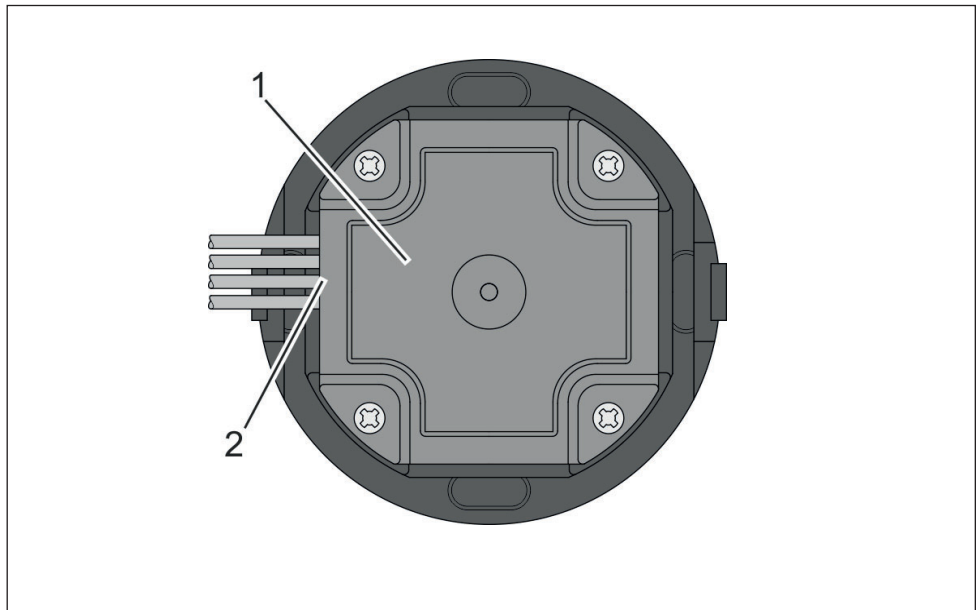

Fig. 11: Rear of WT 210 with lead
4. Screw cover to rear of WT 210 (fig. 11/1). Lead out the leads to the padded cable guides at the side (fig. 11/2).